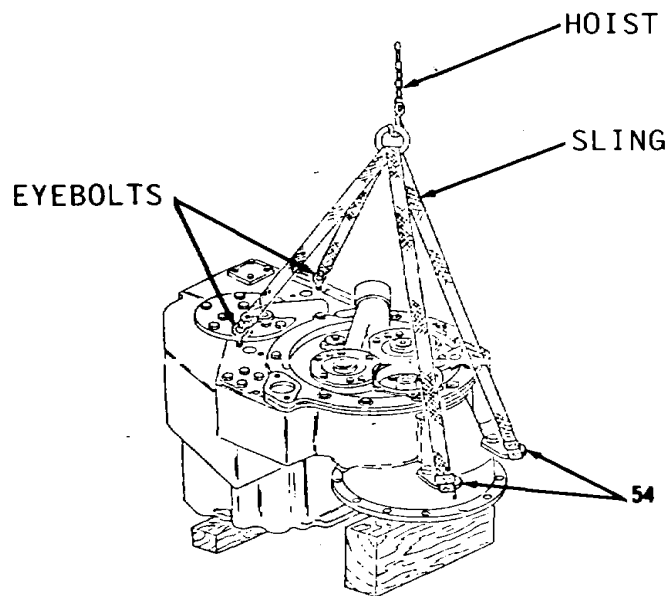

Figure 14-2.
2. Install two 1/2-13NC forged eyebolts (Figure 14-2).